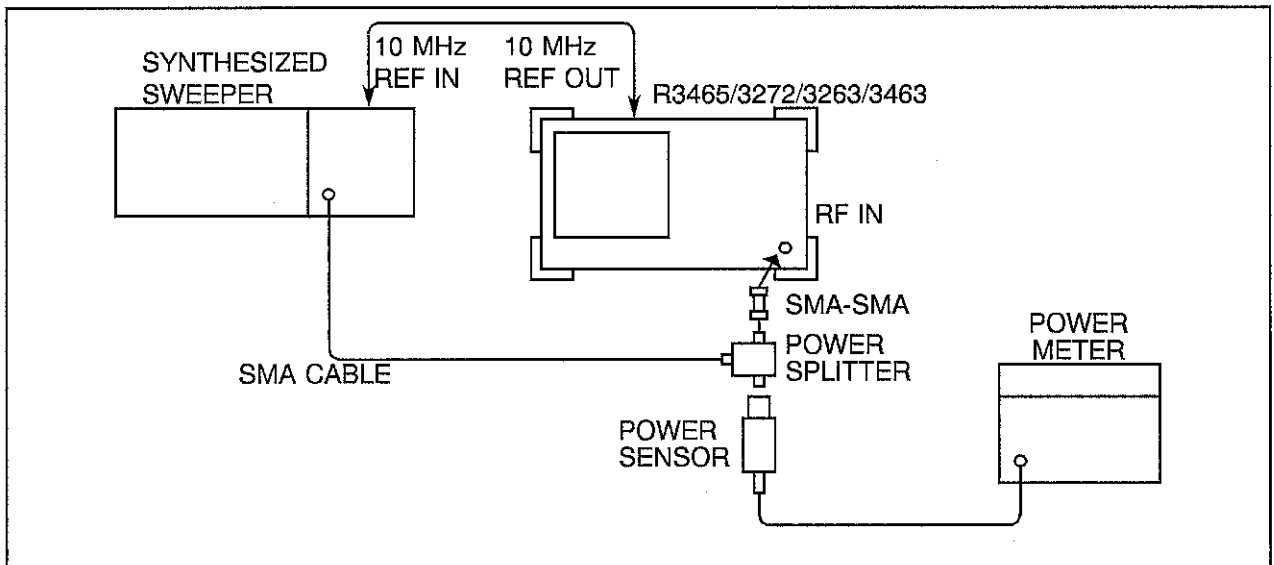

Figure 1-13 Frequency Response Test Setup
(2) Connect the equipment as shown in Figure 1-13.
(3) Press the INSTR PRESET key on the SG3. Set the SG3 controls as follows: